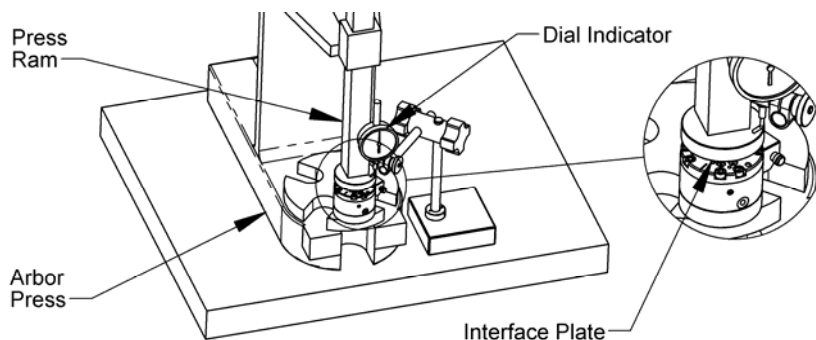

Figure 3.3—Checking Switch Height Adjustment
9. Center the Protector™ under the press ram (see Figure 3.3).